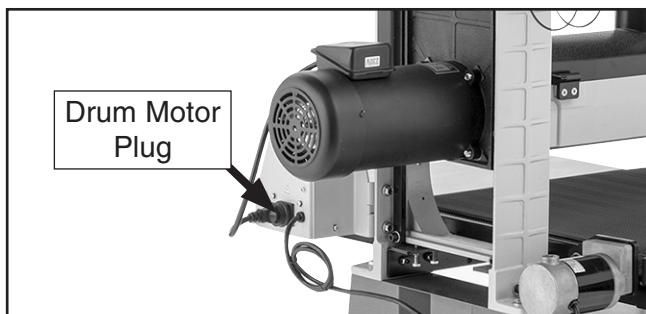

Figure 30. Feed motor plugged into switch box outlet.
2. Plug drum motor cord 6-15 plug into outlet on side of switch box (see **Figure 30**).